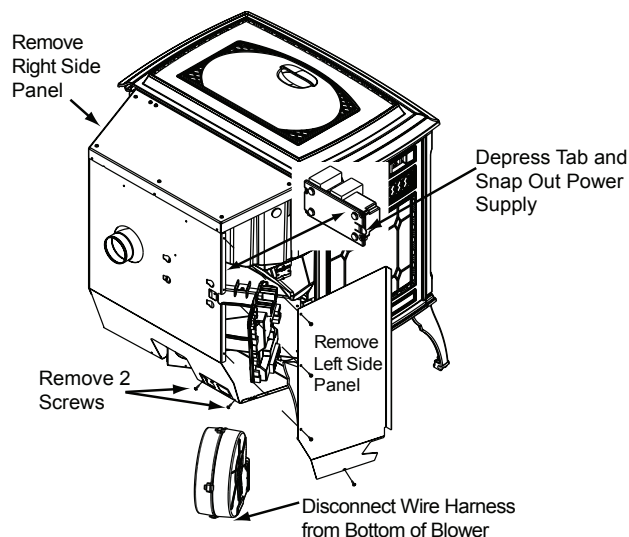

Figure 33.1
2. Remove the left and right side panels by removing the 4 screws using a Phillips head screw driver (**Figure 33.1**).
3. Depress the tab on the left side and snap out the power supply. You do not need to disconnect any wires (**Figure 33.1**).
4. Remove the 2 screws at the bottom of the back panel so there will be room to remove the blower (**Figure 33.1**).
7. Disconnect the wire harness from the bottom of the blower by depressing the tabs on the sides of the connector and then pulling to remove (**Figure 33.1**).